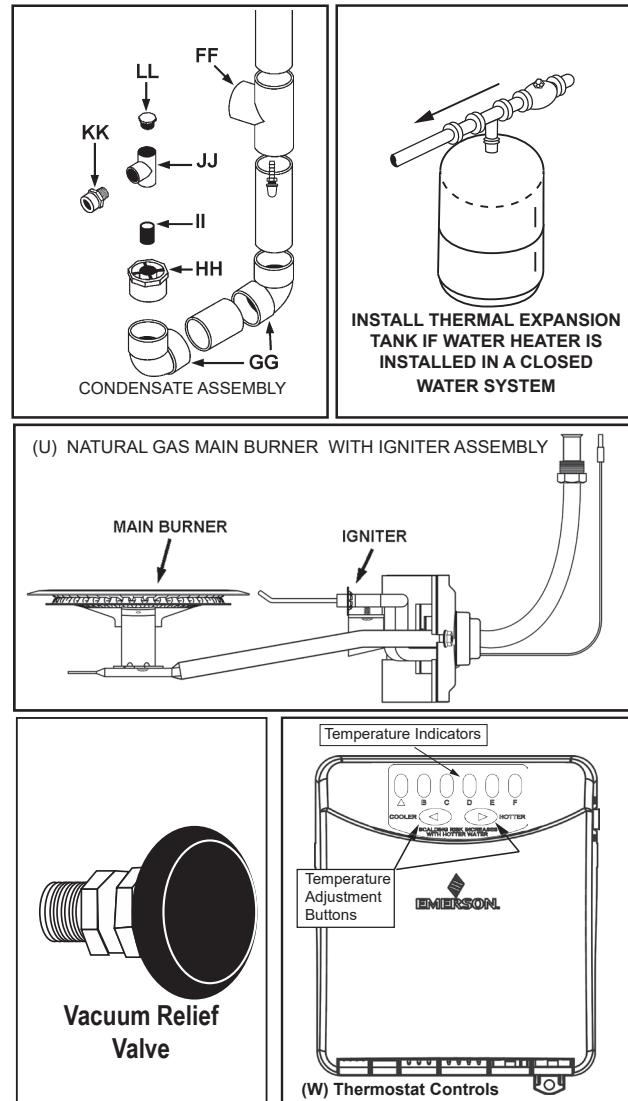
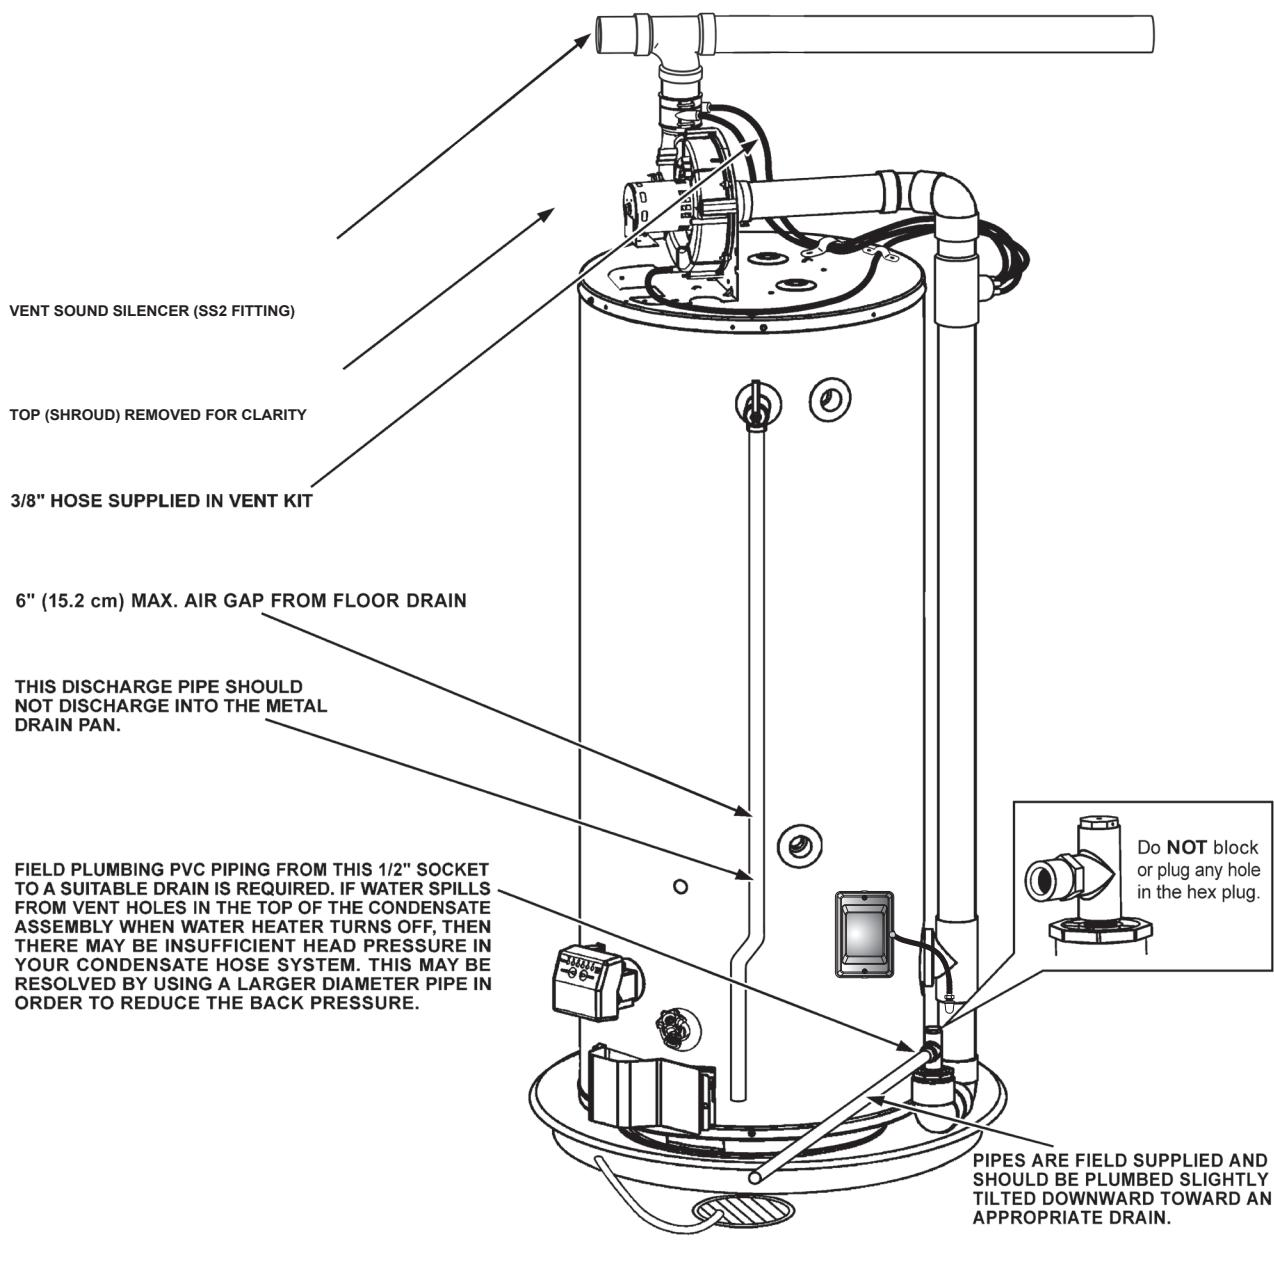

Figure 1. Features and Components - Right Side
Figure 2. Features and Components - Left Side
5. Carefully plan the place where you are going to put the water heater. Correct combustion, vent action, and vent pipe installation are very important in preventing death from possible carbon monoxide poisoning and fires. See *Figure 1* (page 7), *Figure 2* (page 8), and *Figure 8* (page 14).
Installation of the water heater must be accomplished in such a manner that if the tank or any connections should leak, the flow will not cause damage to the structure. For this reason, it is not advisable to install the water heater in an attic or upper floor. When such locations cannot be avoided, a suitable drain pan should be installed under the water heater. Drain pans are available at your local hardware store. Such a drain pan must have a clearance of at least 1.0" (2.5cm) greater than any point on the water heater's outer jacket and must be piped to an adequate drain. The pan must not restrict combustion air flow. For example, if a circular pan is used, it must be a minimum of 27" (69cm) in diameter. See *Figure 1* (page 7) and *Figure 2* (page 8).